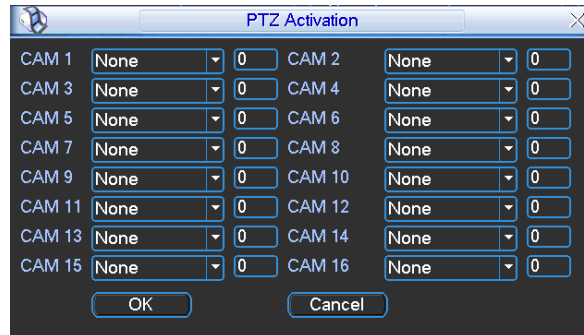

Figure 4-28
- PTZ activation: Here you can set PTZ movement when alarm occurs. Such as go to preset, tour & pattern when there is an alarm. Click “select” button to generate the interface illustrated in Figure 4-28.